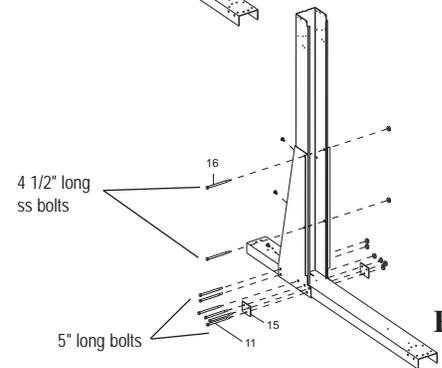

Fig. 14
D) All holes should be lined up at this point. Bolt the components together as shown in the diagram. Use 5/16" x 5" long bolts and 5/16" nuts for the channels, and 5/16" x 4 1/2" long stainless steel bolts for connecting the gussets to the uprights. Remember to include the three-hole plate at the fronts of the gussets. If these washers are left off your pool will break! See Fig.14 for visual instructions.